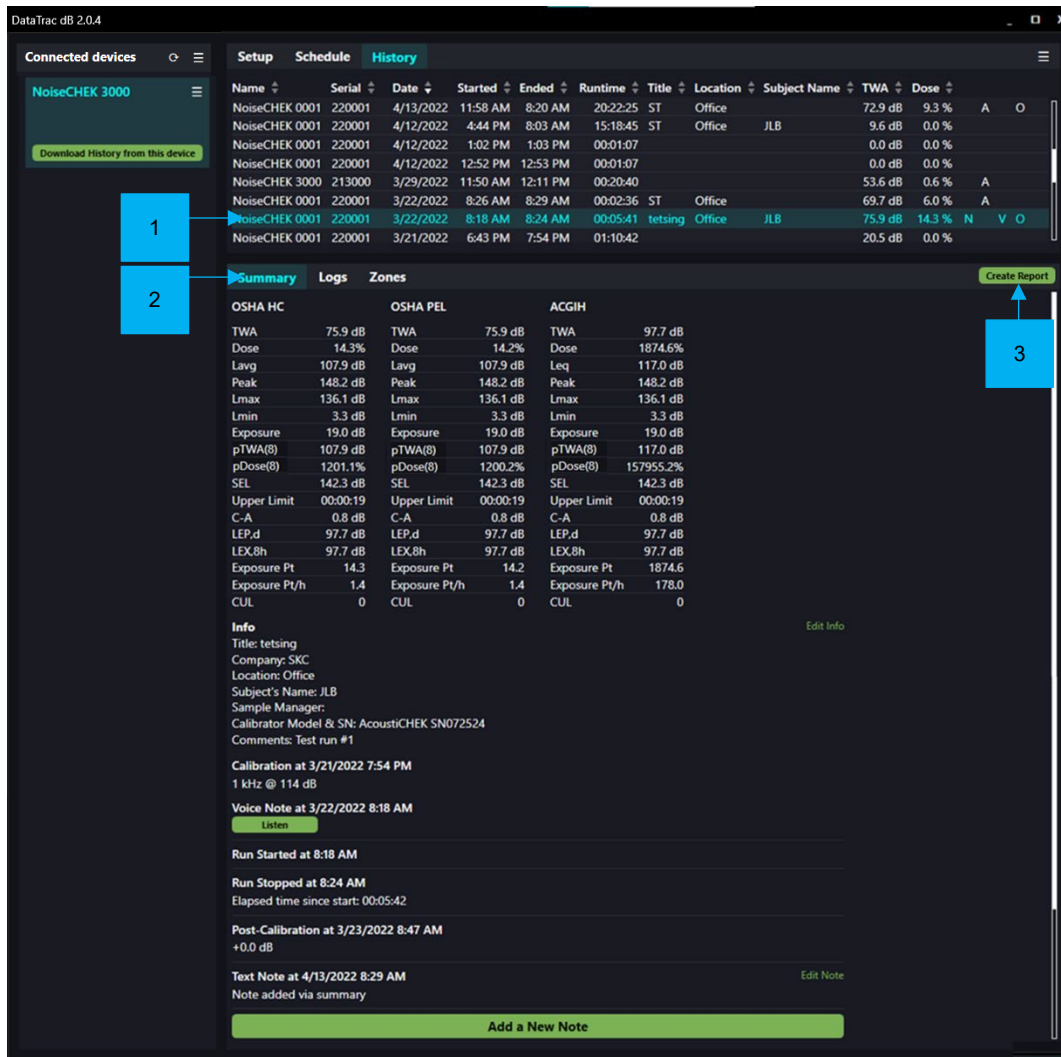

Figure 10. Summary
### Summary – Viewing, Editing, and Reporting Data (Figure 10)
1. **In Summary:** Click Add a New Note (*see Figure 10*).